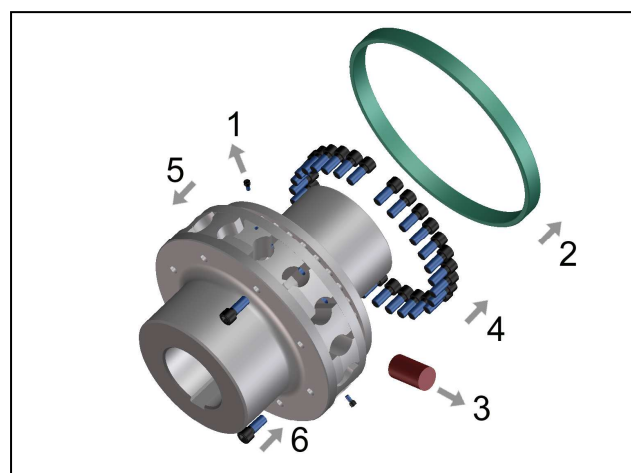

Fig. 10
- Loosen the locking screws (Fig. 10, Pos. 1) at the outer diameter of the retaining ring and push it backward (Fig. 10, Pos. 2).
- Take out the elastic buffers (Fig. 10, Pos. 3).
- Remove the cheese head screws from the flange hub (Fig. 10, Pos. 4). This separates the claw ring from the flange hub.
- Pull out the claw ring (Fig. 10, Pos. 5) with the cheese head screws (Fig. 10, Pos. 6) of its centering. A gap must result in between the claw ring and the flange hub, so that these parts are no longer in contact.
- After having checked the direction of rotation, remove the cheese head screws (Fig. 10, Pos. 6) and install the claw ring to the flange hub using the cheese head screws (Fig. 10, Pos. 4).